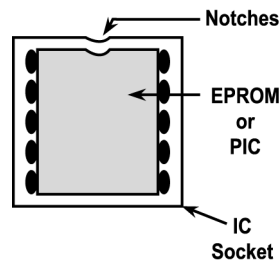

Figure 4: EPROM/PIC Alignment
2. If you have an IC Puller, position the puller on the EPROM. If not, from the top of the controller's PCB, carefully slide a thin blade screwdriver between the EPROM and the IC socket holding the EPROM (see Figure 4 on page 6).
5. Examine the EPROM and the IC socket. One end of the EPROM and one end of the IC socket has a notch in the center (see Figure 4 on page 6). With the EPROM and IC socket notches pointing in the same direction, align the EPROM's pins with the IC socket on the PCB.
2. If you have an IC Puller, position the puller on the PIC. If not, from the top of the controller's PCB, carefully slide a thin blade screwdriver between the PIC and the IC socket holding the PIC (see Figure 4 on page 6).
5. Examine the PIC and the IC socket. One end of the PIC and one end of the IC socket has a notch in the center (see Figure 4 on page 6). With the PIC and IC socket notches pointing in the same direction, align the PIC's pins with the IC socket on the PCB.